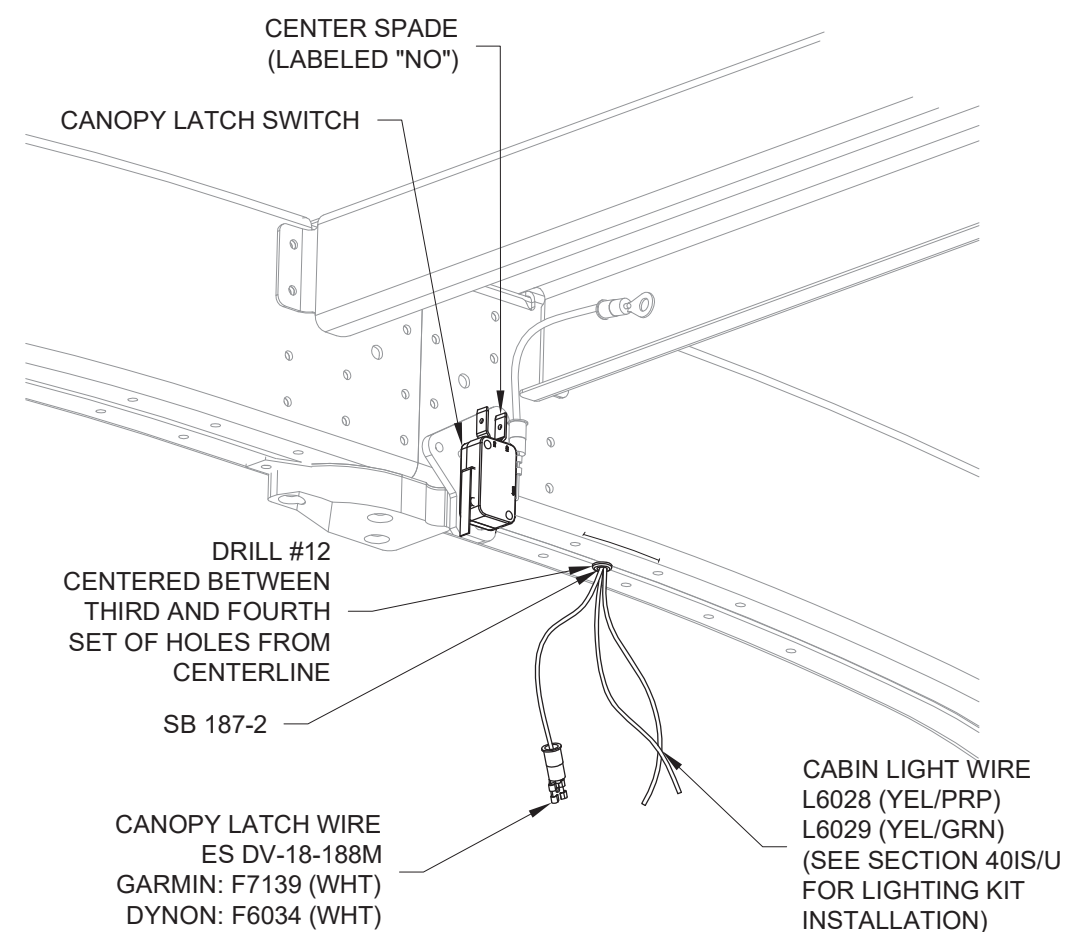

FIGURE 1: DRILLING ROLL BAR
Tape the safety wire to the canopy latch and cabin light wires, then pull the wires through the F-12126 and up into the Roll Bar Assembly with the safety wire. Stop when the wires have exited the #12 hole as shown in Figures 1 and 2.
Step 5: Crimp the ES DV18-188M Spade Terminal onto the canopy latch wire as shown in Figure 1.
Step 6: Connect the spade terminal to the center spade (labeled "NO") of the Canopy Latch Switch as shown in Figure 1.
Step 1: Secure all wires of the main harness that pass through the F-01202B-1 in the two HW-00009 clamps on the F-01230-1 as shown in Figure 1.